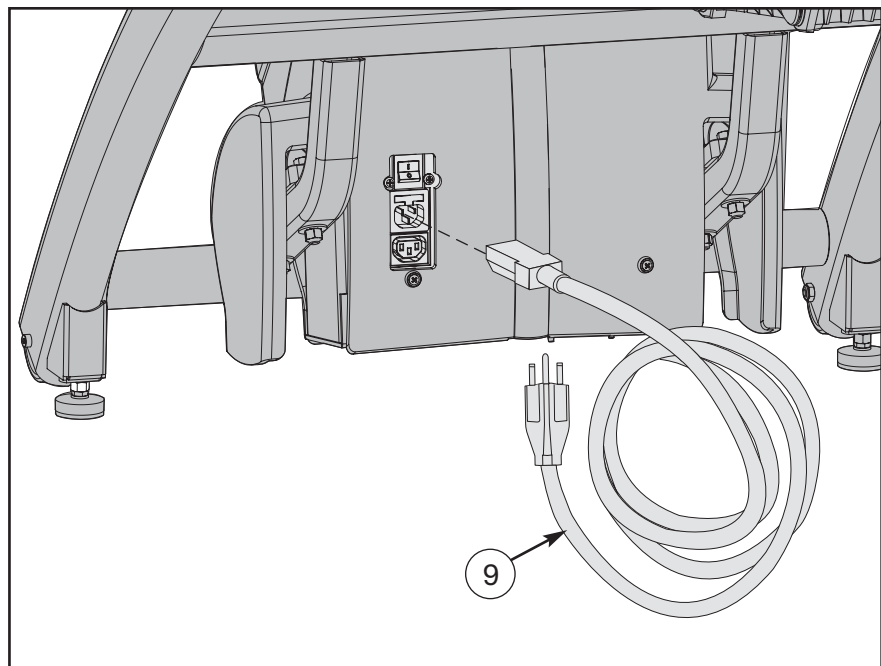

Figure 10
- A. Plug the power cord into the inlet near the on/off switch. **NOTE:** Do not plug the power cord into an outlet at this time. See Figure 10.